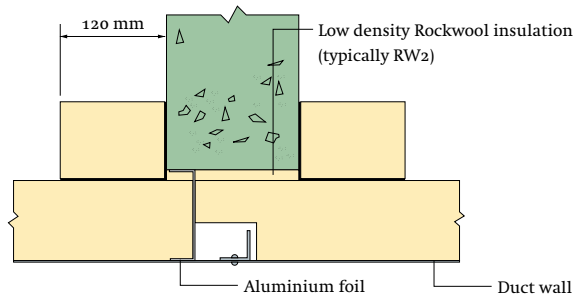

Figure 8 Steel angle frame support to duct at penetration mid point
- a  $30 \times 30 \times 2$  mm mild steel angle frame fixed to the duct at the penetration mid point. Steel rivets should be used at 300 mm maximum centres (Figure 8),